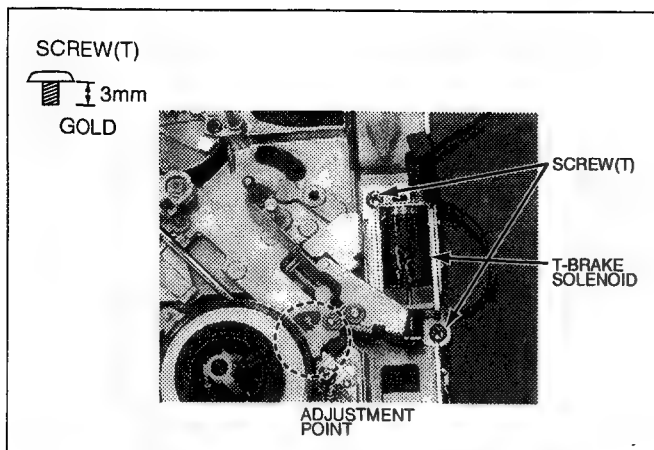

Fig. M-32
- Fig. M-32 Unscrew 2 screws (T) and remove the T-Brake Solenoid.